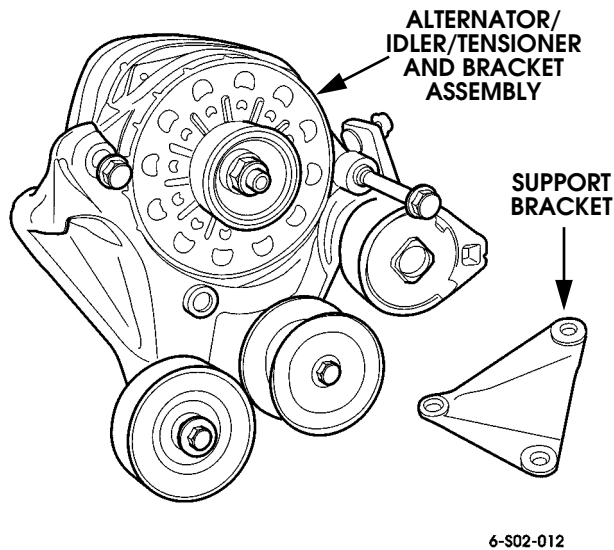

Figure 2-69: Alternator, Pulleys, and Bracket Removal/Installation
26. Disconnect and remove alternator, belt tensioner, idler pulley and brackets as assembly (Figure 2-69).
20. Position support on back of alternator. Then install generator, mounting bracket, idler pulley, support, and tensioner assembly (Figure 2-69). Do not tighten mounting bolts at this time.